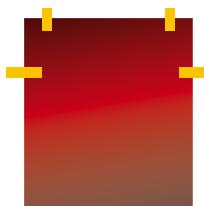

Figure 04
- › Apply a strip of masking tape or magnets across the upper section of the graphic in order to create a horizontal hinge, preferably on a flat part of the surface. (FIG. 04)